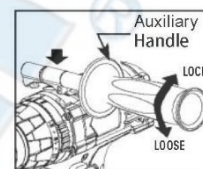

Fig. 4
1. When installing the handle bar into the tool assembly, please make sure that it's place in the design slotted area. After the handle bar set is in position, please turn the handle bar set clock-wise to tighten and counter clock-wise to loosen the handle bar set. Please make sure that the handle bar set is properly secured before operation. (Fig. 4)